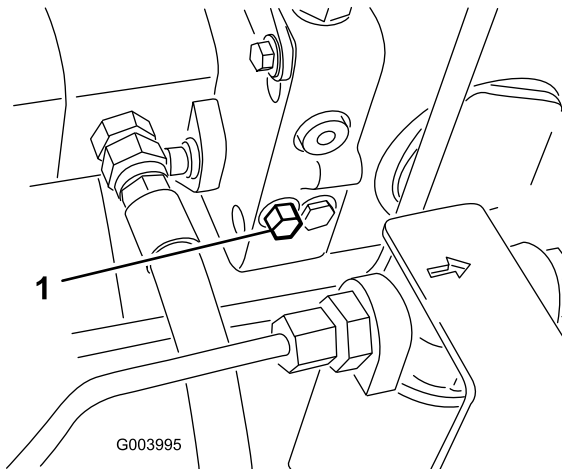

Figure 42
1. Locate the bypass valve on the left side of the hydrostat (Figure 42) and rotate the bolt 1–1/2 turns to open and allow oil to bypass internally.